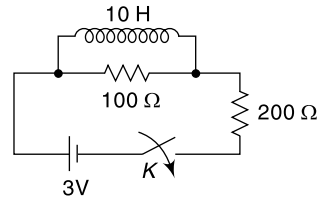

Fig. 3.40 Circuit of Ex. 3.59
3.59 The resistors of $100 \, \Omega$ and $200 \, \Omega$ and an ideal inductance of $10 \, \text{H}$ are connected to a 3-V battery through a key K , as shown in the Fig. 3.40.